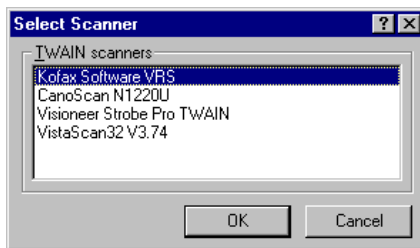

Figure 46. Select Scanner Dialog Box – Imaging for Windows (TWAIN)
- **Kofax Software VRS - TWAIN**(Two examples of this dialog box are shown in Figures 46 and 47.)